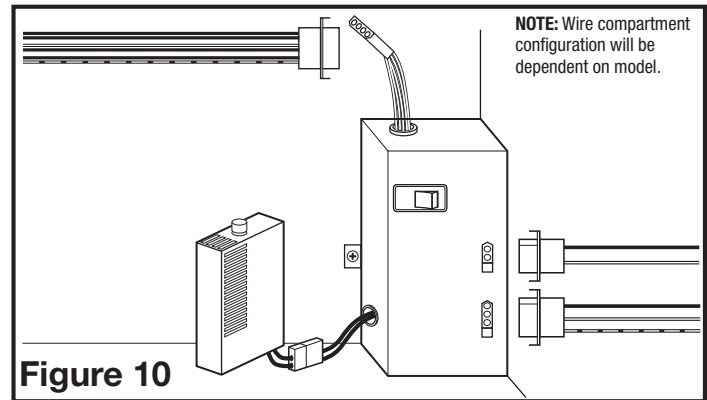

Figure 10
3. Plug the fan's 2 pin and 3 pin quick connect motor cords into the corresponding receptacle located on the wire compartment cover. Connect the two pin connector from the humidistat compartment to the two pin connector from the side of the wire compartment cover. These cords will only fit one way into the receptacles (**Figure 10**).